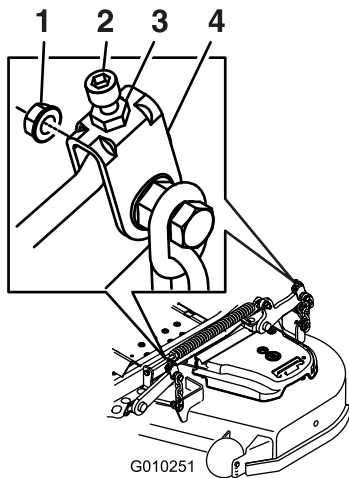

Figure 88
- For mower decks shown in Figure 88, fine-tune the adjustment nut on the front deck-lift assembly by turning it (Figure 88).
- Fine-tune the screw adjuster by turning it to get 8.3 mm (3-1/4 inches) height (Figure 88).